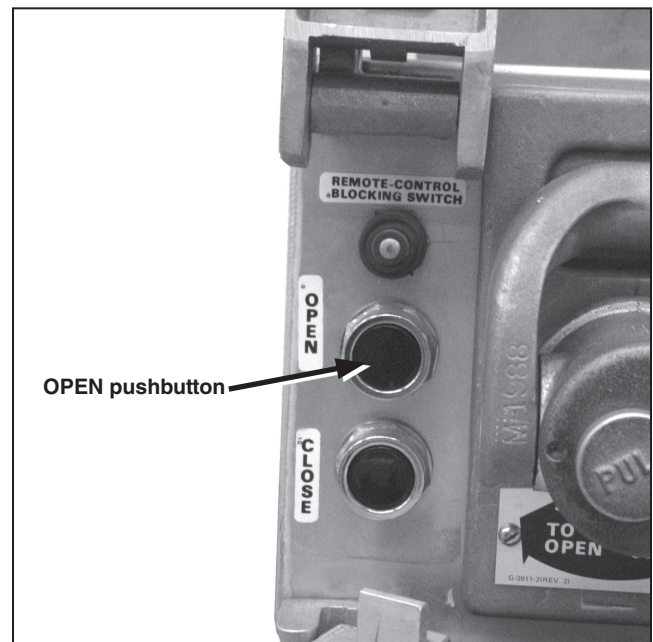

Figure 21. Location of the OPEN pushbutton under the pushbutton protective cover.
- (b) Press the OPEN pushbutton, for about one second, or send a remote **Open** signal to the switch operator. See Figure 21. The disconnect will open, and the charging motors will begin charging the interrupters. Charging takes approximately two minutes.